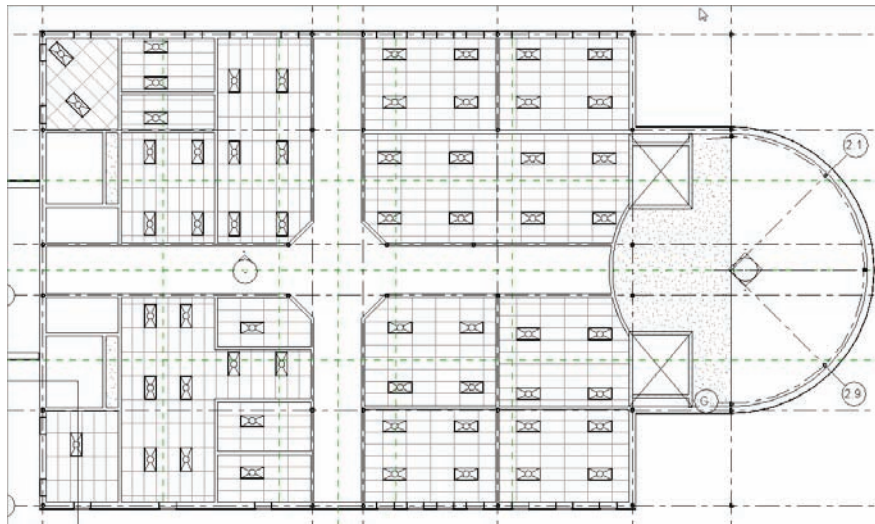

FIGURE 9.48 Adding lights to the rest of the ceilings
10. Copy the light to the location shown in Figure 9.48.
11. Add lights to the rest of the rooms in the east wing, as shown in Figure 9.48. It will be quickest to place a single light horizontally and one vertically, align them to the grids, and then make multiple copies.